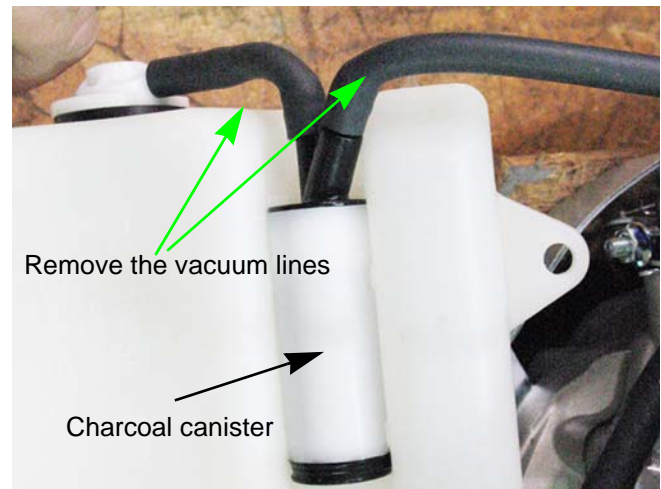

Figure 4.20
2. Remove the vacuum line that runs from the roll over valve to the charcoal canister. See Figure 4.20.